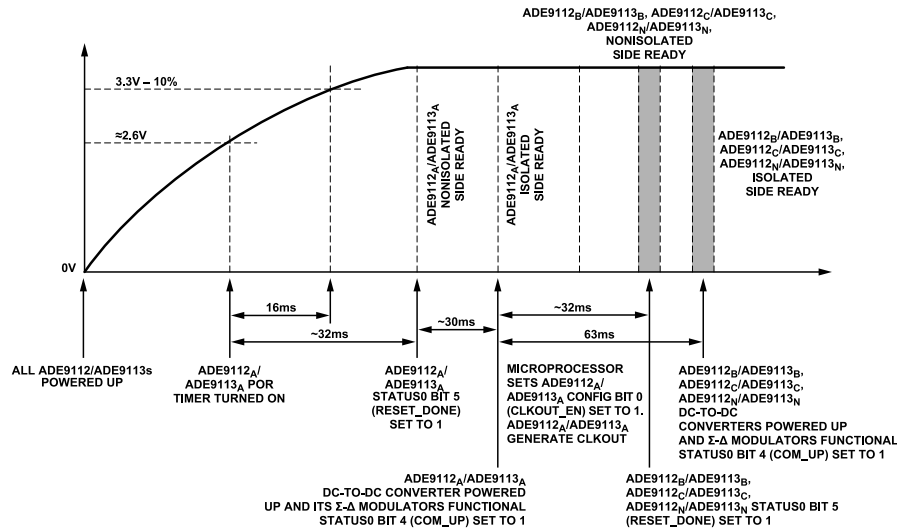

Figure 45. Power-Up Procedure for Systems with Multiple Devices; Only Phase A ADE9112_A/ADE9113_A Is Clocked from a Crystal
For the polyphase energy meters detailed in the Polyphase Energy Meters section, in which, one single crystal is used, the power-up procedure is as follows (see Figure 45):
- Supply VDD to the ADE9103/ADE9112/ADE9113 devices. To ensure that the Phase A ADE9112/ADE9113 (shown as ADE9112_A/ADE9113_A in Figure 45) device starts functioning correctly, the supply must reach 3.3 V – 10% in less than 16 ms from approximately a 2.5 V level. The ADE9112_A/ADE9113_A device is clocked by the 16.384 MHz crystal and then starts functioning. The other ADE9103/ADE9112/ADE9113 devices are not clocked yet.
- Initialize any registers of all remaining ADE9103/ADE9112/ADE9113 devices. Select one ADE9112/ADE9113 device (Phase C, for example, ADE9112_C/ADE9113_C in Figure 45) and connect the CLKOUT/DREADY pin to an external interrupt input and output pin of the microcontroller. ADE9112_C/ADE9113_C must have Bit 0 (CLKOUT_EN) in the CONFIG0 register left at the default value of 0 to use the DREADY functionality of the CLKOUT/DREADY pin.